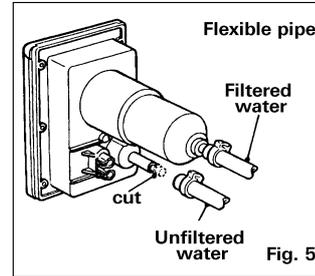

Fig. 5
1. Drinking and cooking water filtered, hot water system unfiltered. Connect the hose from the cold water taps to the rear of the filter cartridge, then cut off the end of the blanked off tube as shown in fig. 5 and 5b and connect the hose from the hot water system.